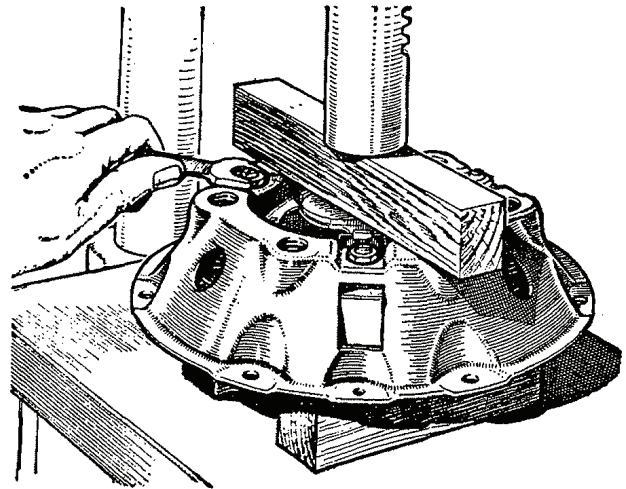

Fig. E.2.
*Using a press and wood blocks (Fig. E.2)*